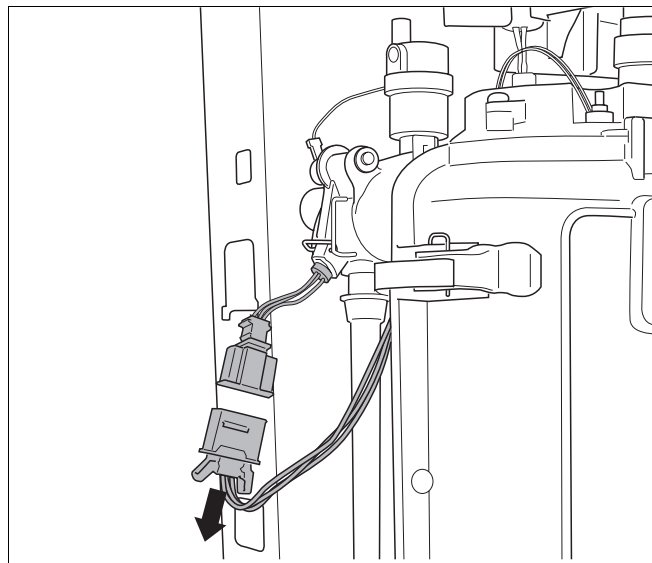

fig. 74 Remove cable connection of bi-sensor
- Remove the cable connection (see fig. 74) of the bi-sensor.